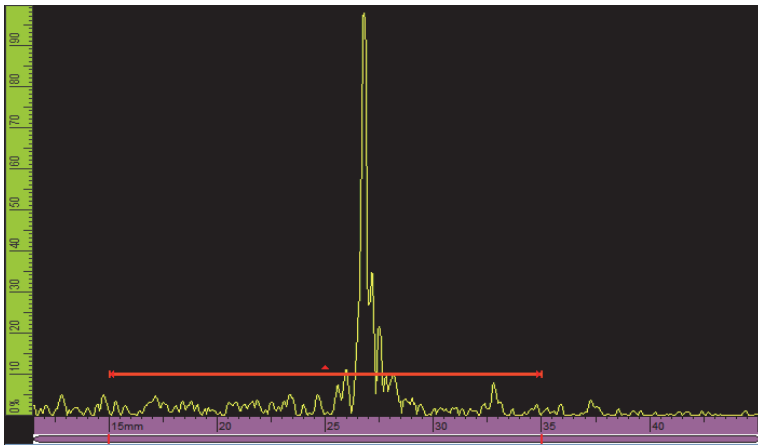

Figure 1 The visual reference on the gate
- **To set a specific gate as the current gate**, click the selected gate. Click the left end of the gate to open the **Gate Start** parameter pop-up button in edit mode. Click the middle of the gate to open the **Gate Threshold** parameter pop-up button in edit mode. Click the right end of the gate to open the **Gate Width** parameter pop-up button in edit mode. When a gate is short, it might be impossible to click a specific zone. A visual reference indicates what sections of the gate are available (see Figure 1 on page 3).